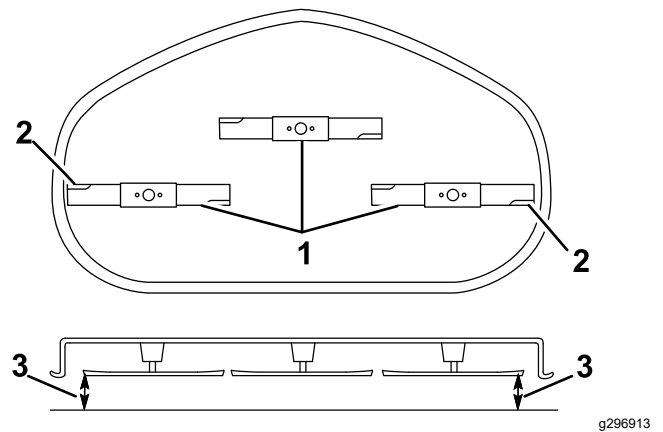

Figure 58
5. Measure between the outside cutting edges and the flat surface (Figure 58).